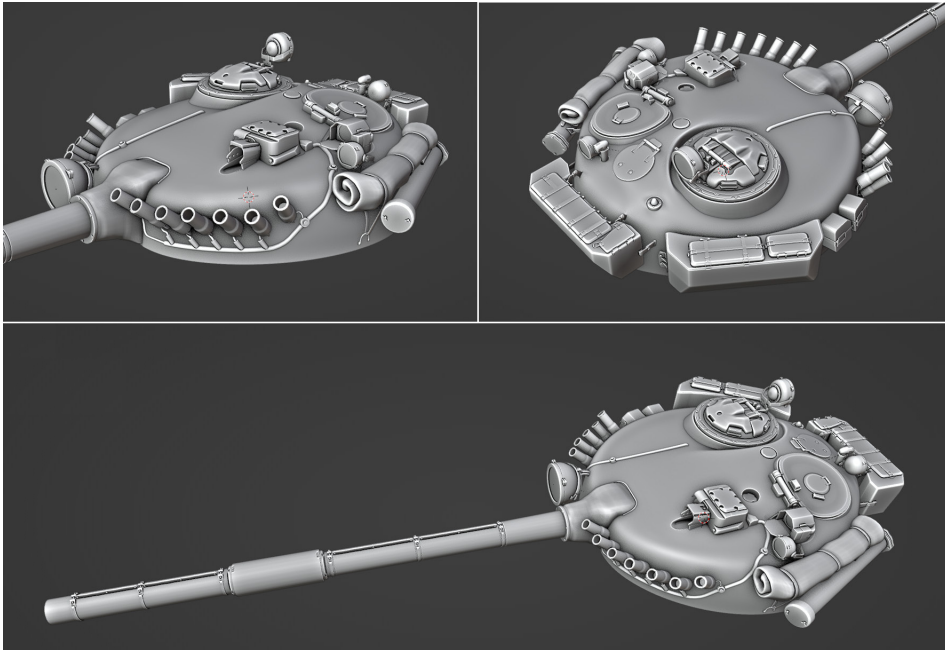

Figure 9.39 – Turret
*Figure 9.39* shows the completed turret from three different angles: